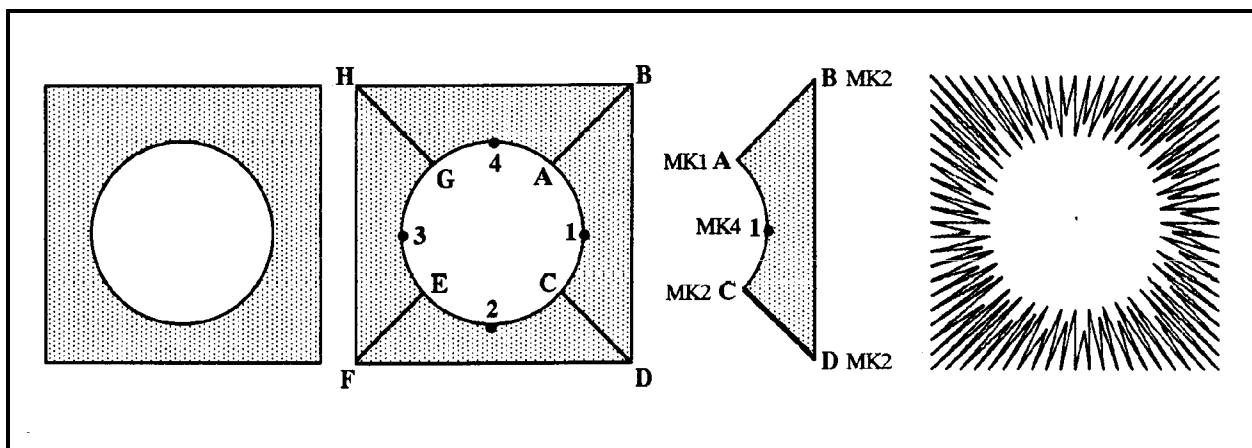

Figure 3-33
Another sample of curve smoothing is shown in Figure 3-33. Suppose you wanted to digitize column stitches in the shaded area of the shape shown at the left in Figure 3-33.
1. Plot the shape by dividing it into four similar sections as shown in the second from left illustration in Figure 3-33.
6. Now continue this process until all four sections are digitized. You should get a result similar to the illustration at the right in Figure 3-33.